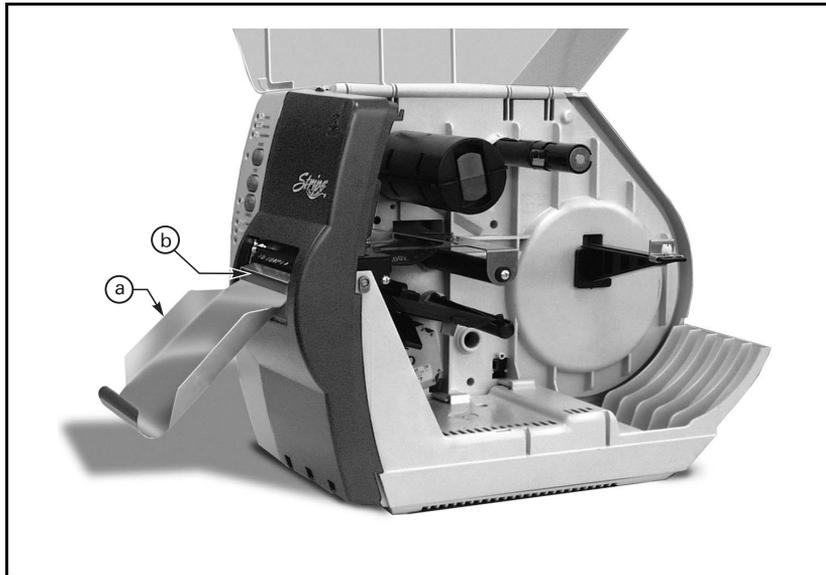

Figure 17. Label Catch Tray Removal
2. See Figure 17. Remove the label catch tray (a) by lifting it up and away from the front of the cutter module (b).